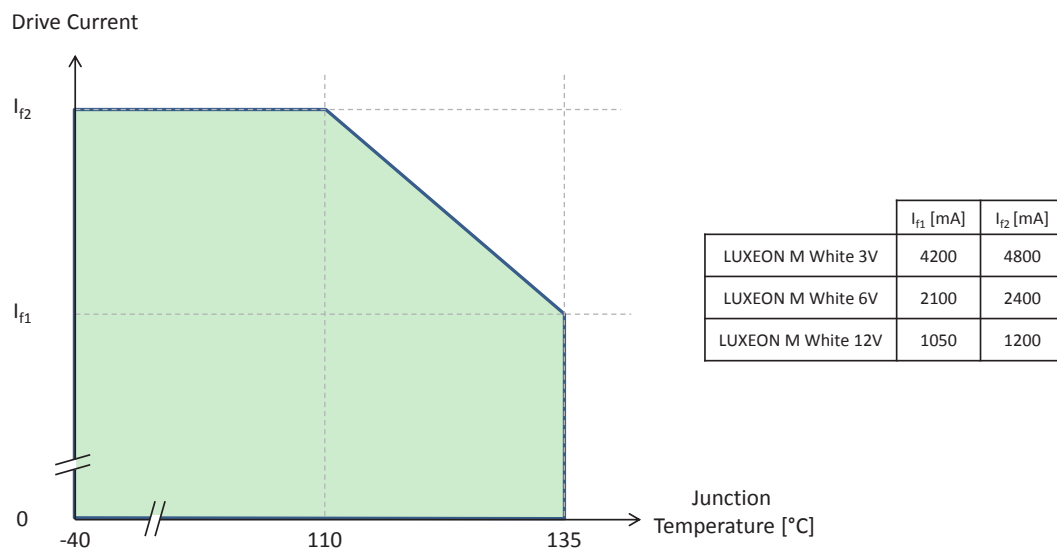

Figure 1: Maximum permissible operating conditions for LUXEON M White.
1. See Figure 1 for more details on the maximum permissible operating conditions for LUXEON M White.
2. Residual periodic variations due to power conversion from alternating current (AC) to direct current (DC), also called "ripple", are acceptable if the following conditions are met:
Notes for Figure 1: